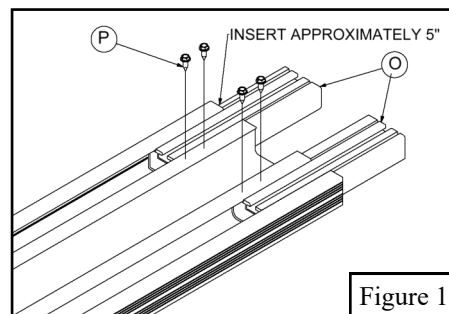

Figure 1
1. 15' and 21' seat planks are shipped in multiple sections. 15' planks consist of two 7 1/2' *Aluminum Seat Planks* (A). 21' planks consist of one 6' *Aluminum Seat Plank* (B) in the middle with one 7 1/2' *Aluminum Seat Plank* (A) on each end.
2. Plank sections are connected using *Seat Connector Tubes* (O), *Seat Connector Caps* (L), #14 X 3/4" *Self Drilling/Tapping Hex Screws* (P) and 3/8" *Hex Magnetic Screw Drive Socket* (Q).
3. Insert two *Seat Connector Tubes* (O) approximately 5" into the end of each plank that will be attached to an adjoining plank. Using 3/8" *Hex Magnetic Screw Drive Socket* (Q) and a cordless or electric drill install two #14 X 3/4" *Self Drilling/Tapping Hex Screws* (P) through the plank and into each *Seat Connector Tube* (O) located approximately as shown. See Figure 1.